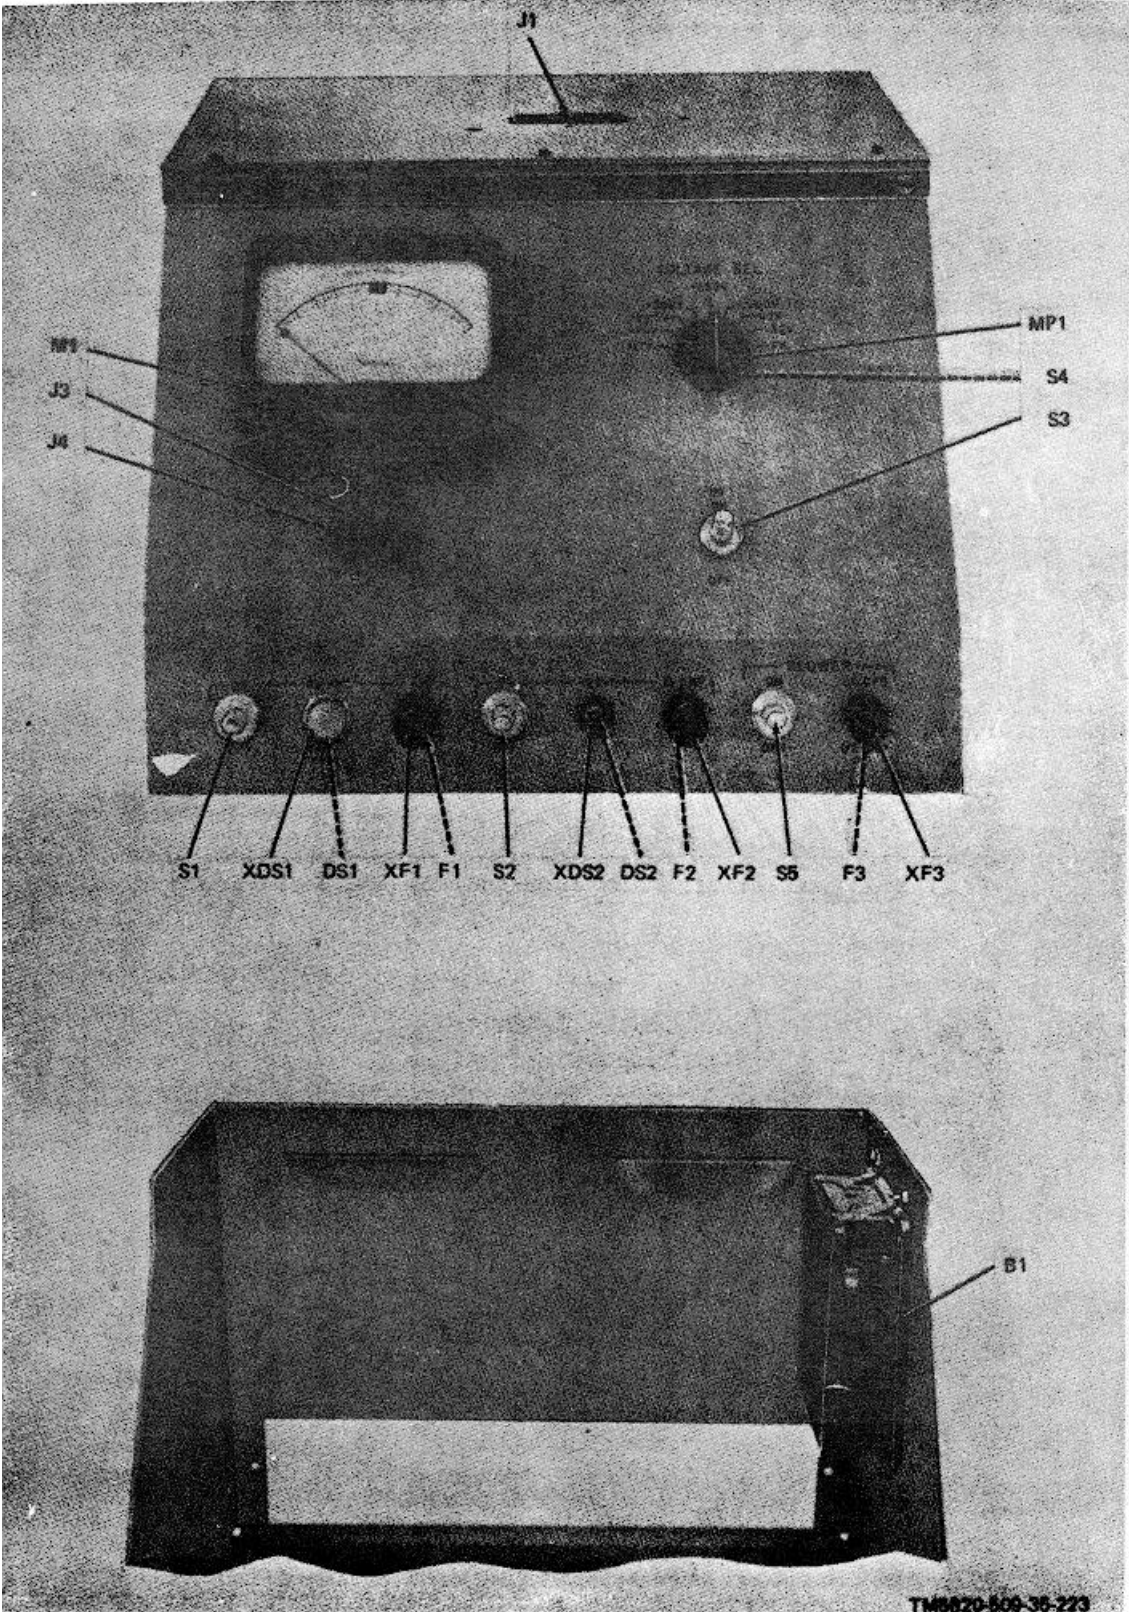

Figure 6-24. Test Fixture for Power Supply PP-3518/PrC-47, Parts Location.
(3) 115 VAC 5 AMP fuse. This protective device is connected to the 115 volts, 400 Hz primary power circuit to protect it from overload.
(7) BLOWER ON-OFF switch. This toggle switch controls the 115 volts, 60 Hz primary power applied to the blower.
(8) BLOWER 60 CPS 1/2 AMP fuse. This protective device is connected to the 115 volts, 60 Hz primary power circuit that energizes the blower motor and protects it from overload.
(9) HV ON-OFF switch. This toggle switch enables the push-to-talk relay (K1) in the power supply module when high voltage output is desired.
(10) VOLTAGE SEL switch. This 9-position rotary switch selects the power supply module circuit to be monitored and connects it to the DC VOLTAGE meter, or the AC VOLTAGE, jacks for measurement. All power supply module outputs can be selected by this switch.
(11) DC VOLTAGE meter. This 0-100 microammeter is used to indicate the several dc output voltages of the power supply module as selected by the VOLTAGE SEL switch.
(12) AC VOLTAGE jacks. These jacks are provided to connect an external ac instrument for measuring the filament voltage output of the power supply module.
c. The piece parts required for fabrication of the test fixture are listed in the following chart and suggested parts placement is shown in figures 6-24 and 6-25. Schematic diagram (fig. 7-18) illustrates the internal circuit of the test fixture.